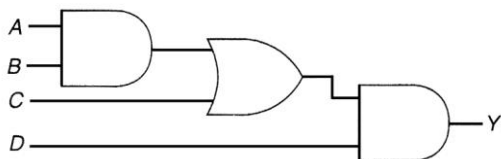

Figure 4-19 Gate logic for question 37 program answer.
37. Draw a PLC ladder diagram program for the gate logic array shown in Figure 4-19.